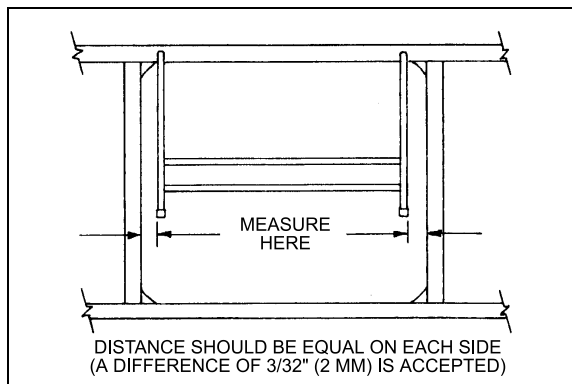
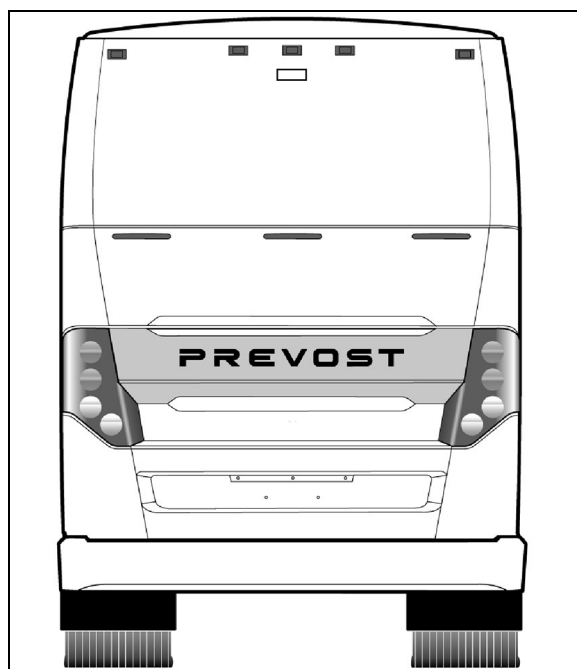

FIGURE 80: PANTOGRAPH DOOR ADJUSTMENT 18063
FIGURE 81: ENGINE COMPARTMENT DOOR 18747
Measure distance between a pantograph arm end and a straight edge resting on structure. Repeat procedure for the other arm. The distance on each side should be equal. If not, bend appropriate arm until desired measure is obtained (Figure 80 & Figure 81).
5. When the door is straight, remove the 2x4's and check door operation and fit. A difference of  $3/32$ " (2mm) between both sides is accepted (Figure 81).